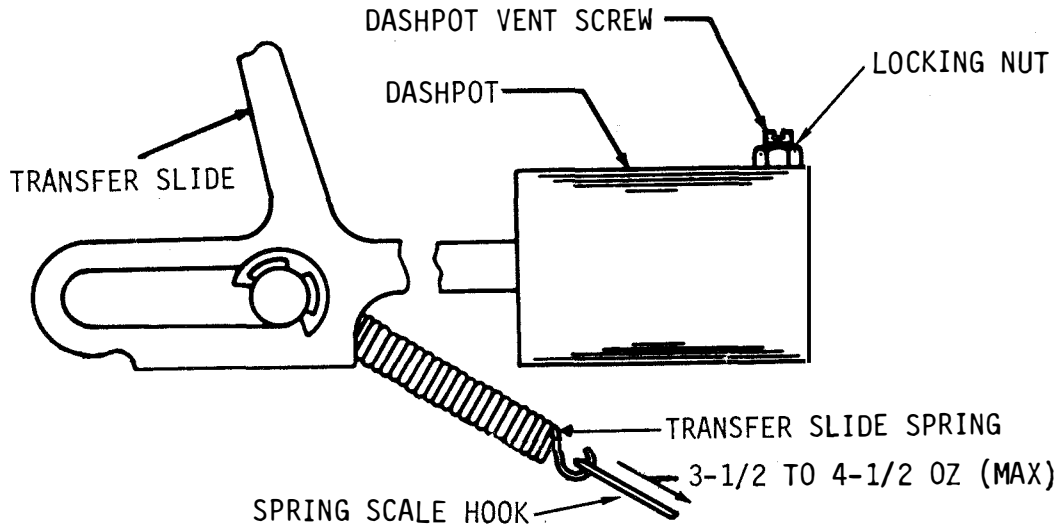

Figure 6-44. Dashpot Vent Screw and Transfer Slide Spring, Front View
(a) Refer to Figure 6-44.
(16) Transfer Slide Spring. Adjust as follows:
- Figure 6-44.